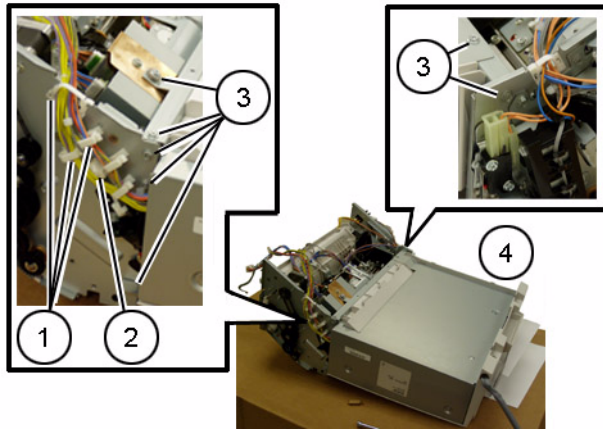

Figure 4 Removing the Stacker Tray
11. Remove the Stacker Tray (Figure 4):